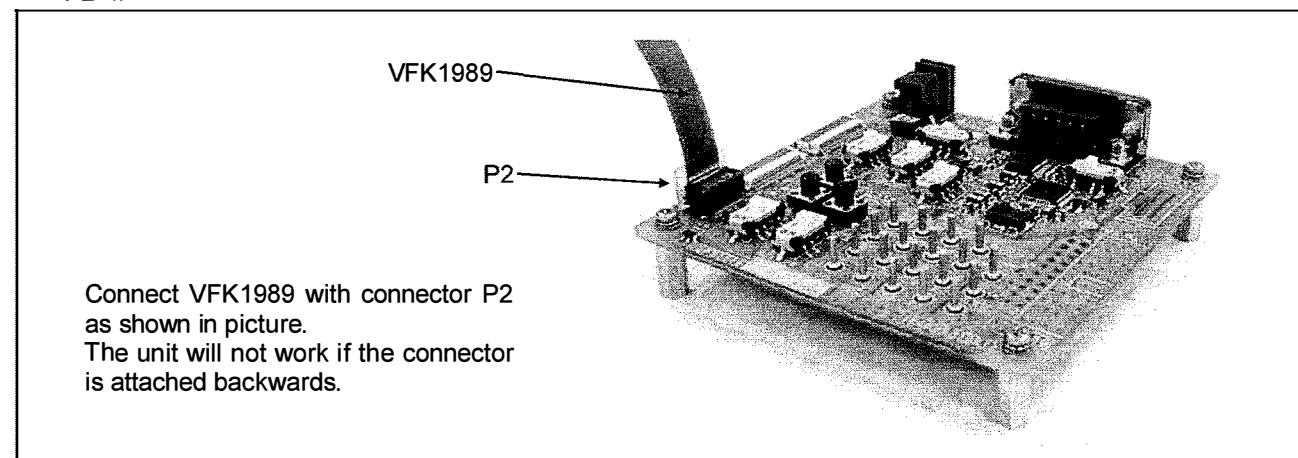

Figure 1-2-4
4. Connect the Extension Cable (VFK1989) to connector P2 on Measuring Board (VFK1988) as shown in Figure 1-2-4.